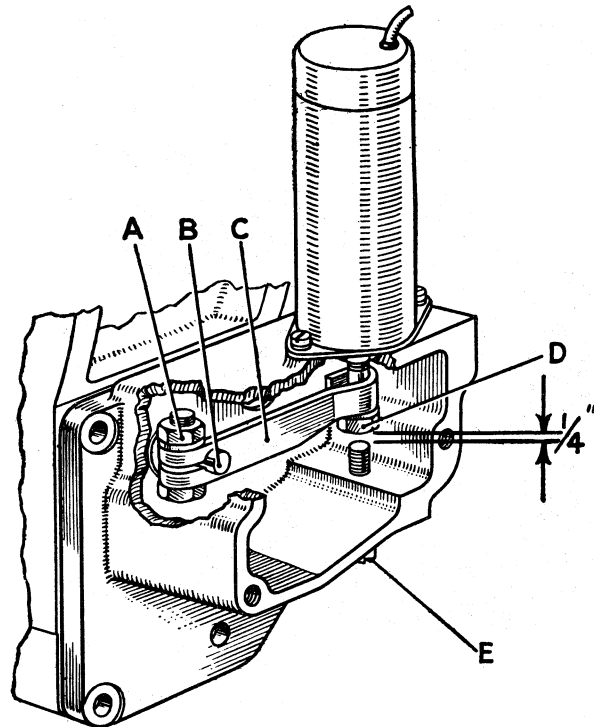

Fig. 8 Adjusting the Solenoid Lever.
It is very unlikely that any maladjustment of the lever will develop to prevent overdrive from releasing. Make sure that there is $\frac{1}{4}$ " (6.35 mm.) clearance between the solenoid adjusting screw (E) (Fig. 8) and the head of the solenoid bolt when the plunger is lifted. The setting and working